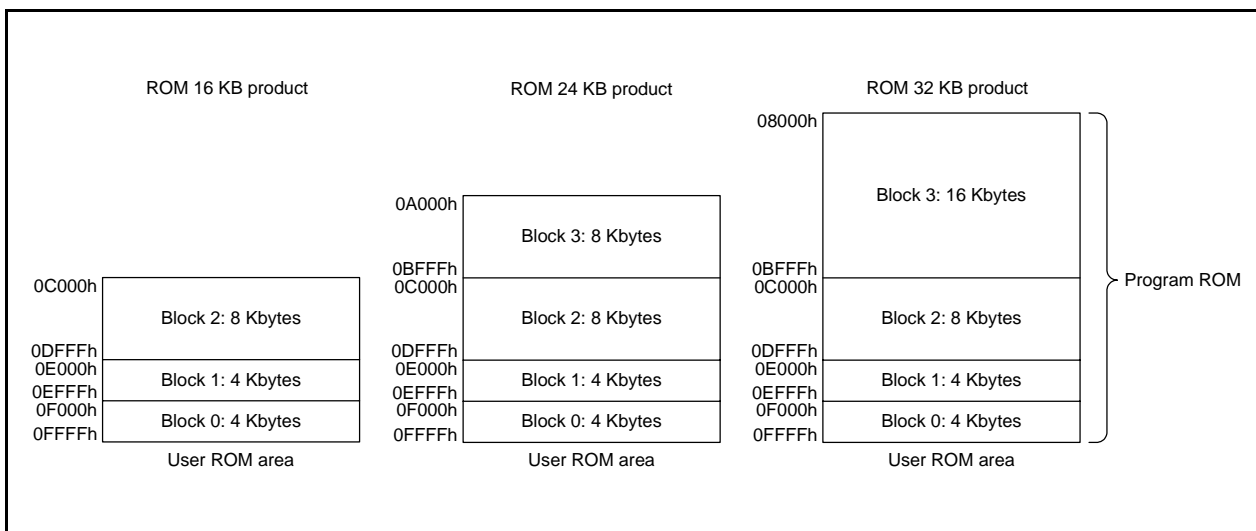

Figure 24.1 R8C/35D Group Flash Memory Block Diagram
- The number of blocks and block division vary with the MCU. Refer to **Figure 24.1 R8C/35D Group Flash Memory Block Diagram** for details.
Figure 24.1 shows the R8C/35D Group Flash Memory Block Diagram.